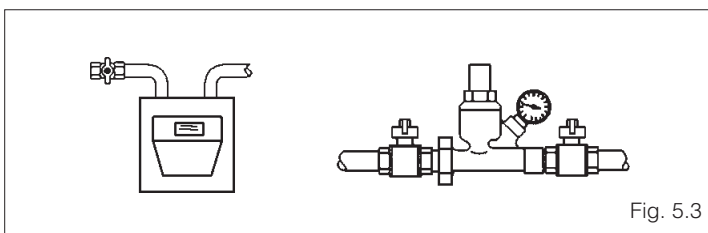

Fig. 5.3
- Close the boiler's fuel cock and water circuit cock (fig. 5.3).